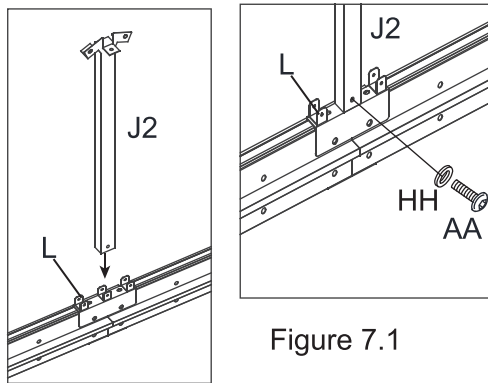

Figure 7.1
7.1 Insert the Vertical Brace (J2) into the Top Beam Guard (L), connect them with Bolts (AA) and Washers (HH) .See Figure 7.1.